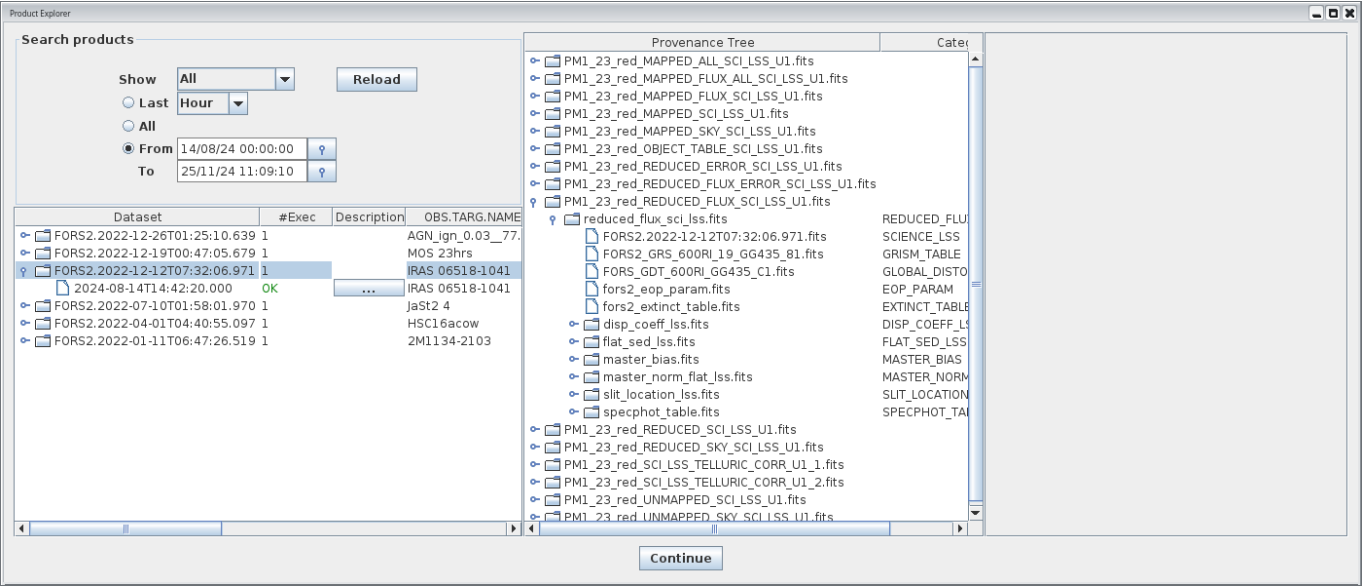

Figure 6.5: The Product Explorer shows all datasets reduced in previous executions together with the full reduction chain for all the pipeline products.
10. Once the reduction of all datasets has finished, a pop-up window called *Product Explorer* will appear, showing the datasets which have been reduced together with the list of final products. This actor allows the user to inspect the final data products, as well as to search and inspect the input data used to create any of the products of the workflow. Figure 6.5 shows the *Product Explorer* window. A full description of the *Product Explorer* will be presented in Section 9.3.3.